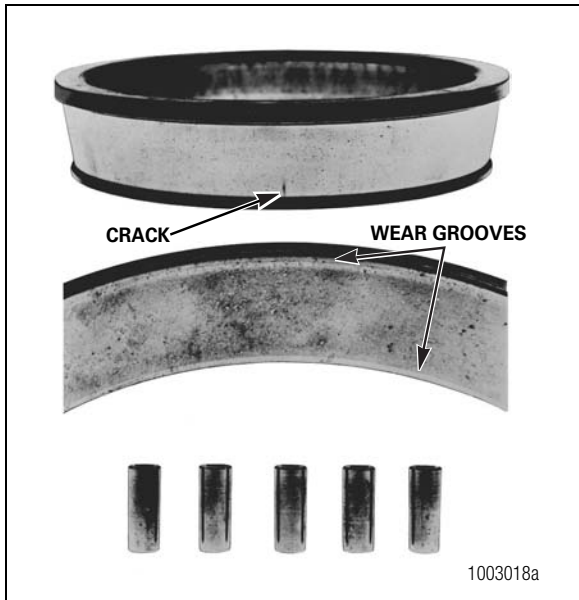

Figure 4.2
- You can see deep cracks or breaks in the cup, cone, and inner race or roller surfaces. Figure 4.2.